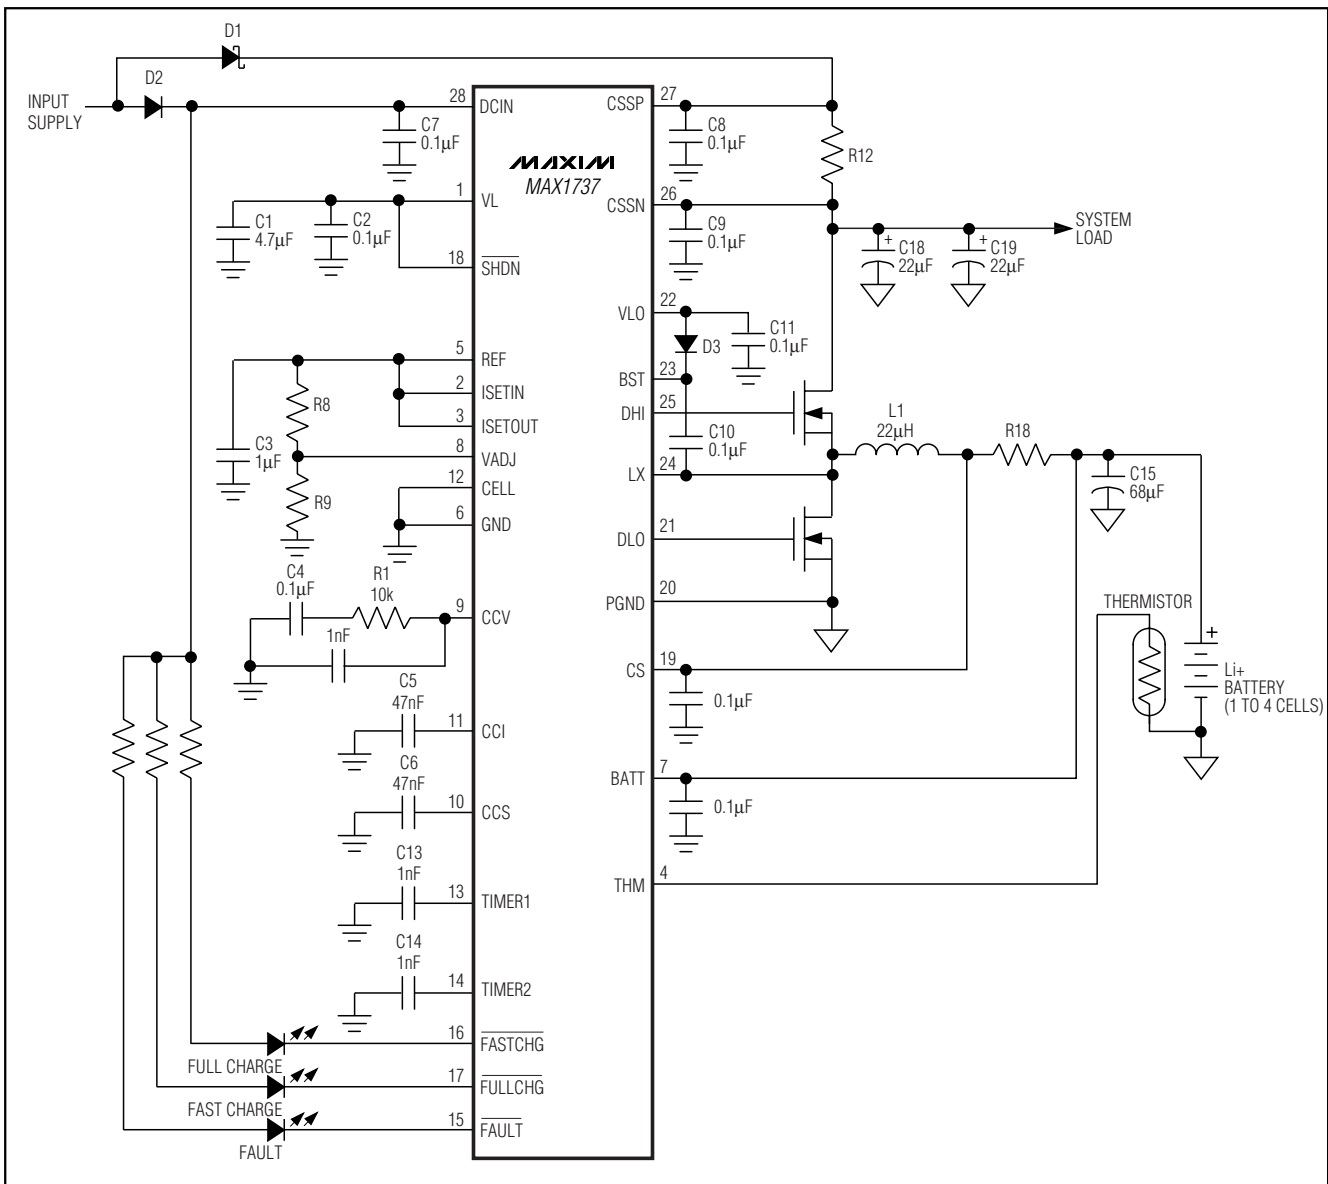
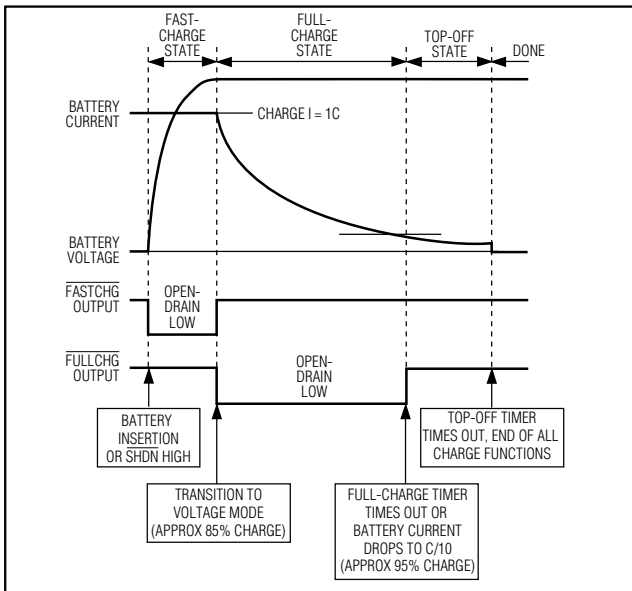
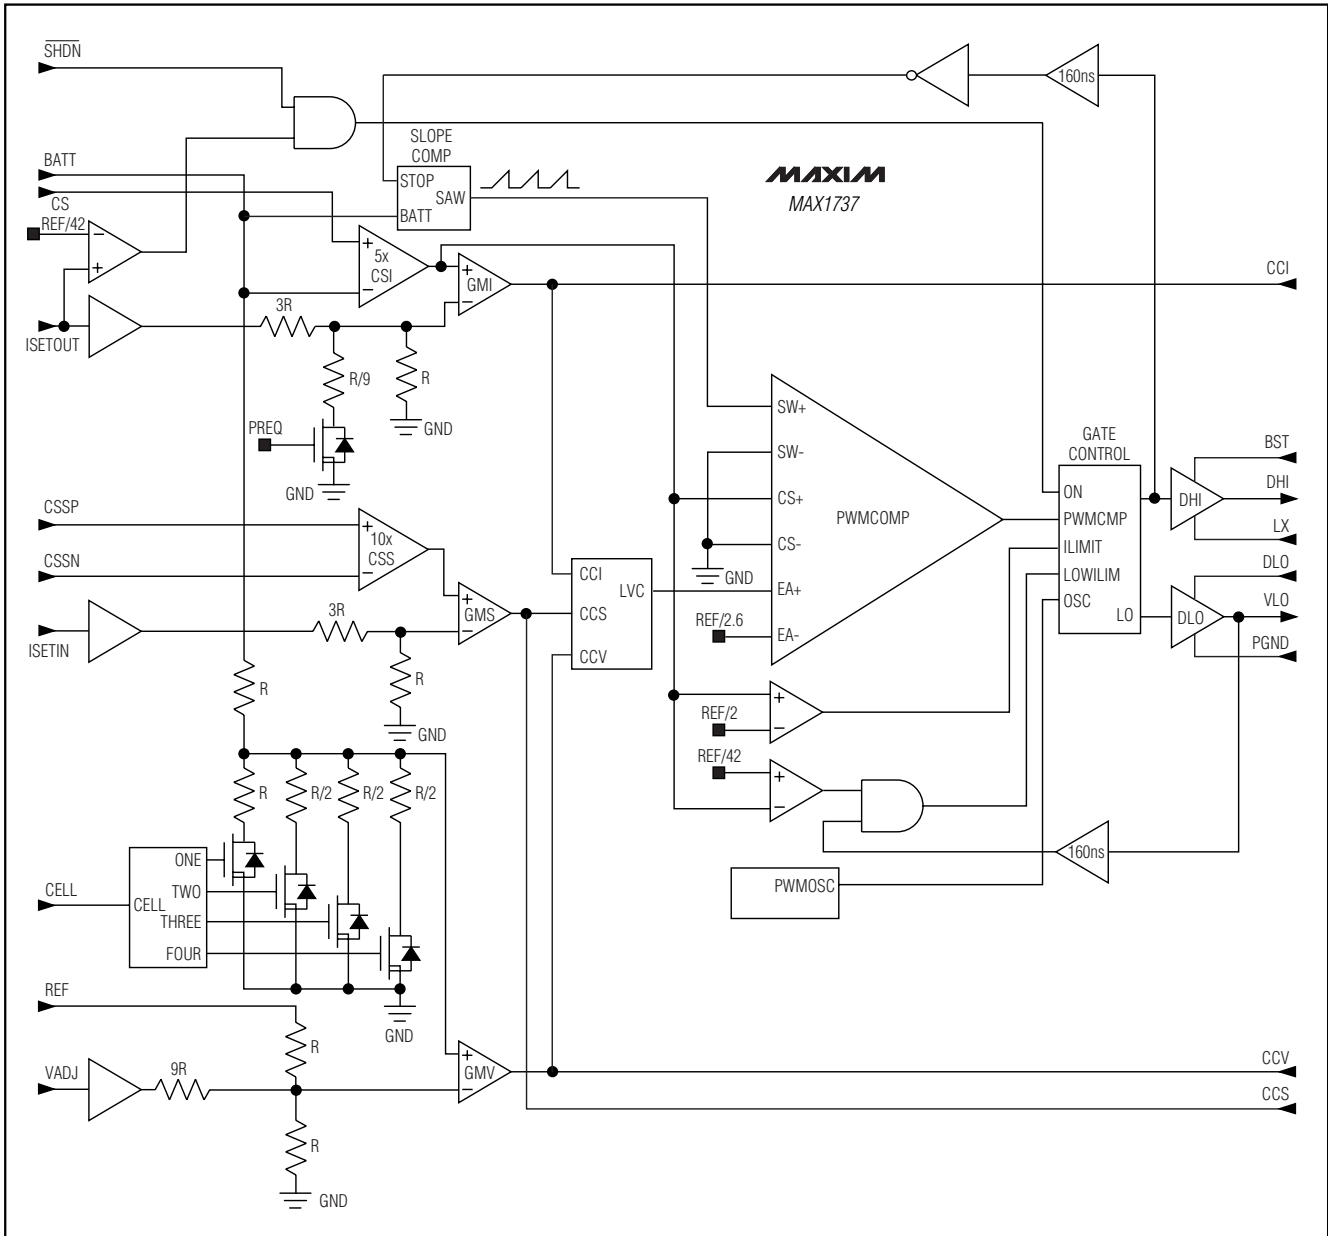

Figure 1. Typical Application Circuit
Figure 2. Charge State and Indicator Output Timing for a Typical Charging Sequence
Figure 3. PWM Controller Block Diagram
(Circuit of Figure 1,  $V_{DCIN} = V_{CSSN} = V_{CSSP} = +18V$ ,  $\overline{SHDN} = VL$ ,  $CELL = GND$ ,  $V_{BATT} = V_{CS} = +4.2V$ ,  $V_{VADJ} = V_{REF} / 2$ ,  $I_{SETIN} = I_{SETOUT} = REF$ ,  $R_{THM} = 10k\Omega$ ,  $T_A = -40^\circ C$  to  $+85^\circ C$ , unless otherwise noted.) (Note 9)
(Circuit of Figure 1,  $V_{DCIN} = +18V$ ,  $I_{SETIN} = I_{SETOUT} = REF$ ,  $V_{VADJ} = V_{REF} / 2$ ,  $T_A = +25^{\circ}C$ , unless otherwise noted.)
The DC-DC converter uses an external dual N-channel MOSFET as a switch and a synchronous rectifier to convert the input voltage to the charging current or voltage. The typical application circuit is shown in Figure 1. Figure 2 shows a typical charging sequence and Figure 3 shows the block diagram. Charging current is set by the voltage at ISETOUT and the voltage across R18. The battery voltage is measured at the BATT pin. The battery regulation voltage is set to 4.2V per cell and can be adjusted  $\pm 5\%$  by changing the voltage at the VADJ pin. By limiting the adjust range, the voltage
An internal error amplifier (GMV) maintains voltage regulation (Figure 3). The GMV amplifier is compensated at  $\text{CCV}$ . The component values shown in Figure 1 provide suitable performance for most applications. Individual compensation of the voltage regulation and current regulation loops allows for optimal compensation of each.
The charging current-limit regulator limits the charging current. The current is sensed by measuring the voltage across the current-sense resistor ( $\text{R18}$ , Figure 1) placed between the  $\text{BATT}$  and  $\text{CS}$  pins. The voltage on the  $\text{ISETOUT}$  pin also controls the charging current. Full-scale charging current is achieved by connecting  $\text{ISETOUT}$  to  $\text{REF}$ . In this case, the full-scale current-sense voltage is 200mV from  $\text{CS}$  to  $\text{BATT}$ .
TIMER1 controls the maximum prequalification time, maximum full-charge time, and the top-off time. TIMER2 controls the maximum fast-charge time. The timers are set by external capacitors. The typical times of 7.5 minutes for prequalification, 90 minutes for full charge, 45 minutes for top-off, and 90 minutes for fast charge are set by using a 1nF capacitor on TIMER1 and TIMER2 (Figure 1). The timers cannot be disabled.
cycle (approximately 85% charge) and is operating in voltage mode. The FASTCHG and FULLCHG outputs can be tied together to indicate charging (see Figure 2). FAULT indicates the charger has detected a charging fault and that charging has terminated. The charger can be brought out of the FAULT condition by removing and reapplying the input power, or by pulling SHDN low.
VADJ sets the per-cell voltage limit. To set the VADJ voltage, use a resistor-divider from REF to GND. A GND-to-VREF change at VADJ results in a  $\pm 5\%$  change in the battery limit voltage. Since the full VADJ range results in only a 10% change on the battery regulation voltage, the resistor-divider's accuracy need not be as high as the output voltage accuracy. Using 1% resistors for the voltage-dividers results in no more than 0.1% degradation in output voltage accuracy. VADJ is internally buffered so that high-value resistors can be used. Set  $V_{ADJ}$  by choosing a value less than  $100k\Omega$  for R8 and R9 (Figure 1) from VADJ to GND. The per-cell battery termination voltage is a function of the battery chemistry and construction; thus, consult the battery manufacturer to determine this voltage. Once the per-cell voltage limit battery regulation voltage is determined, the VADJ voltage is calculated by the equation:
A resistor-divider from REF to GND sets the voltage at ISETOUT ( $V_{ISETOUT}$ ). This voltage determines the charging current during the current-regulation fast-charge mode. The full-scale charging current ( $I_{FSI}$ ) is set by the current-sense resistor (R18, Figure 1) between CS and BATT. The full-scale current is  $I_{FSI} = 0.2V / R18$ .
A resistor-divider from REF to GND can set the voltage at ISETIN ( $V_{ISETIN}$ ). This sets the maximum source current allowed at any time during charging. The source current ( $I_{FSS}$ ) is set by the current-sense resistor (R12, Figure 1) between CSSP and CSSN. The full-scale source current is  $I_{FSS} = 0.1V / R12$ .
The voltage-regulating loop error amp output is brought out at CCV. Compensate this loop by connecting a capacitor in parallel with a series resistor-capacitor (RC) from CCV to GND. Recommended values are shown in Figure 1.